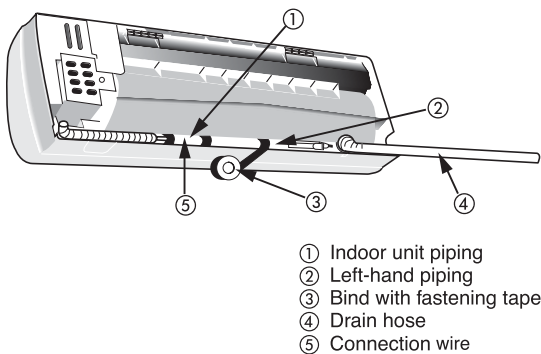

Fig. 9 — Location of Piping
4. The drain hose should be at the bottom. See Fig. 9 and 10.